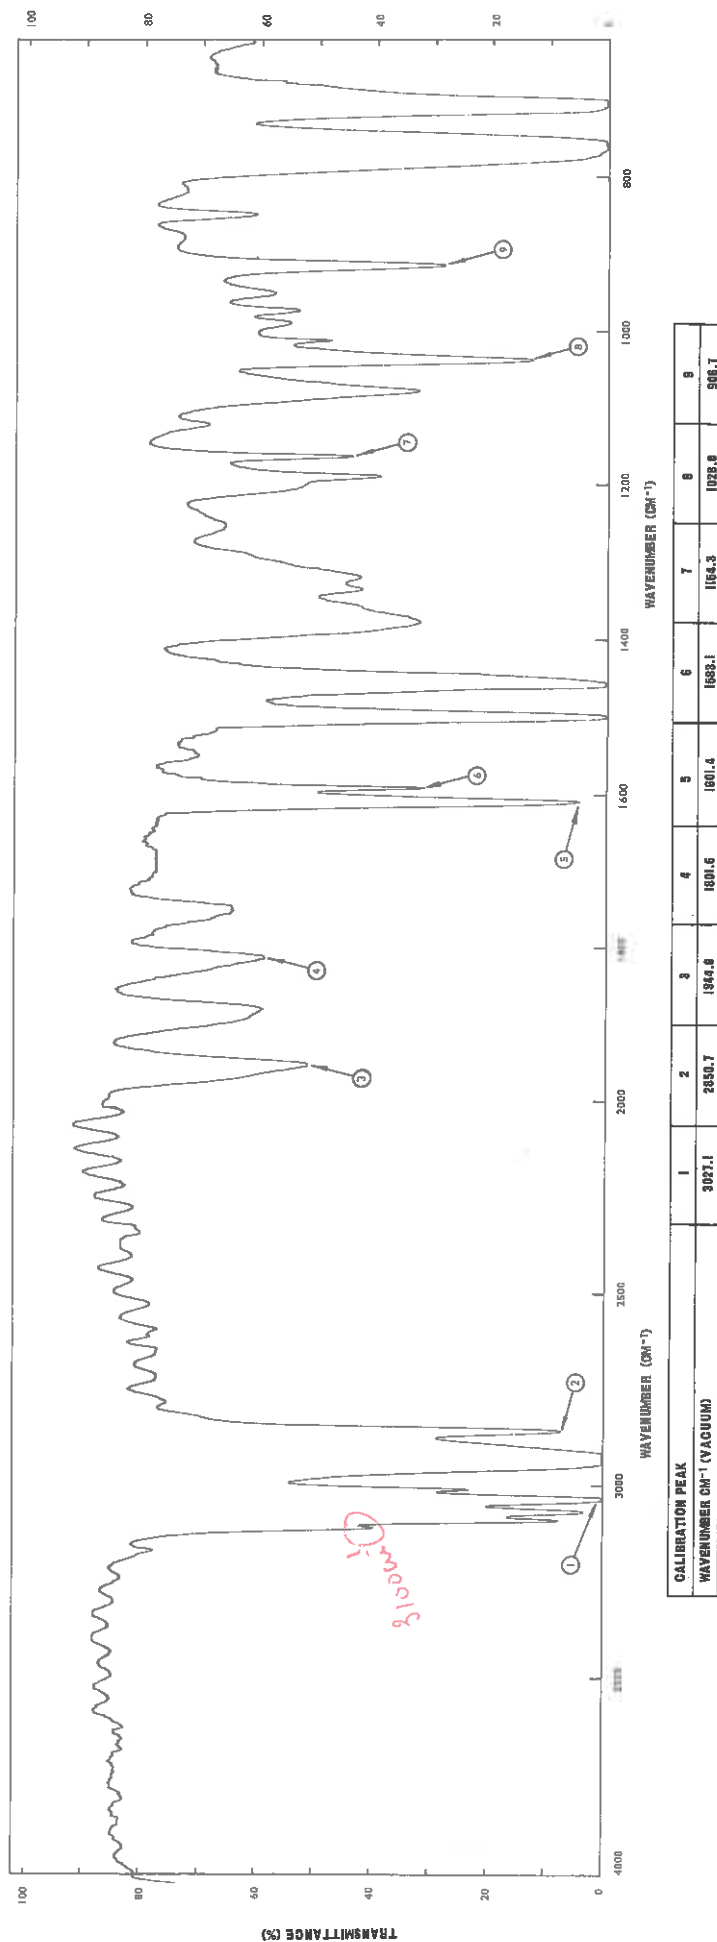

Fig. 2-12 Polystyrene Spectrum. Normal Slit Programme.
26. The polystyrene film provided with the instrument may also be used to check performance. It does not, however, provide such an accurate calibration check due to perturbation of absorption band positions by overlap with other bands or with interference fringes. In addition, the sample lacks calibration points in the 4000 cm^{-1} region. A reference spectrum is given in Fig. 2.12.